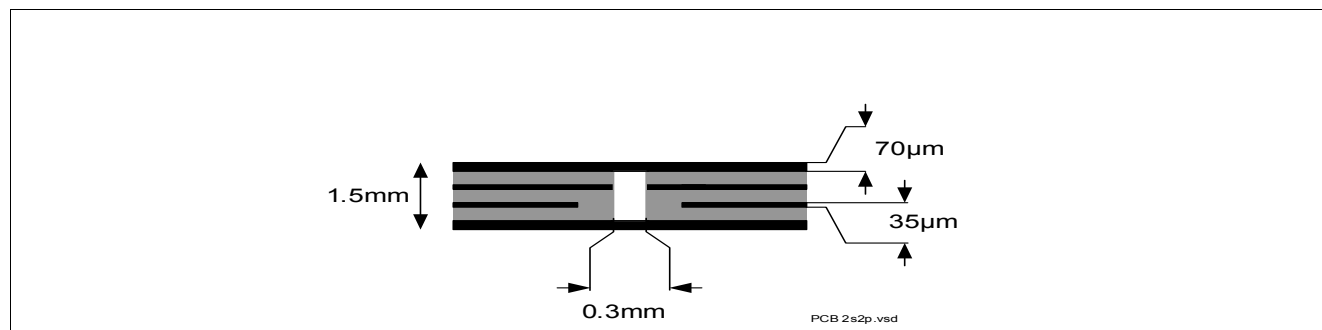

Figure 4 2s2p PCB Cross Section
2) Specified R_{thja} value is according to JEDEC JESD51-2,-5,-7 at natural convection on FR4 2s2p board; The product (chip + package) was simulated on a 76.4 x 114.3 x 1.5 mm board with 2 inner copper layers (2 x 70μm Cu, 2 x 35 μm Cu). Where applicable, a thermal via array under the exposed pad contacts the first inner copper layer. Please refer to Figure 4.